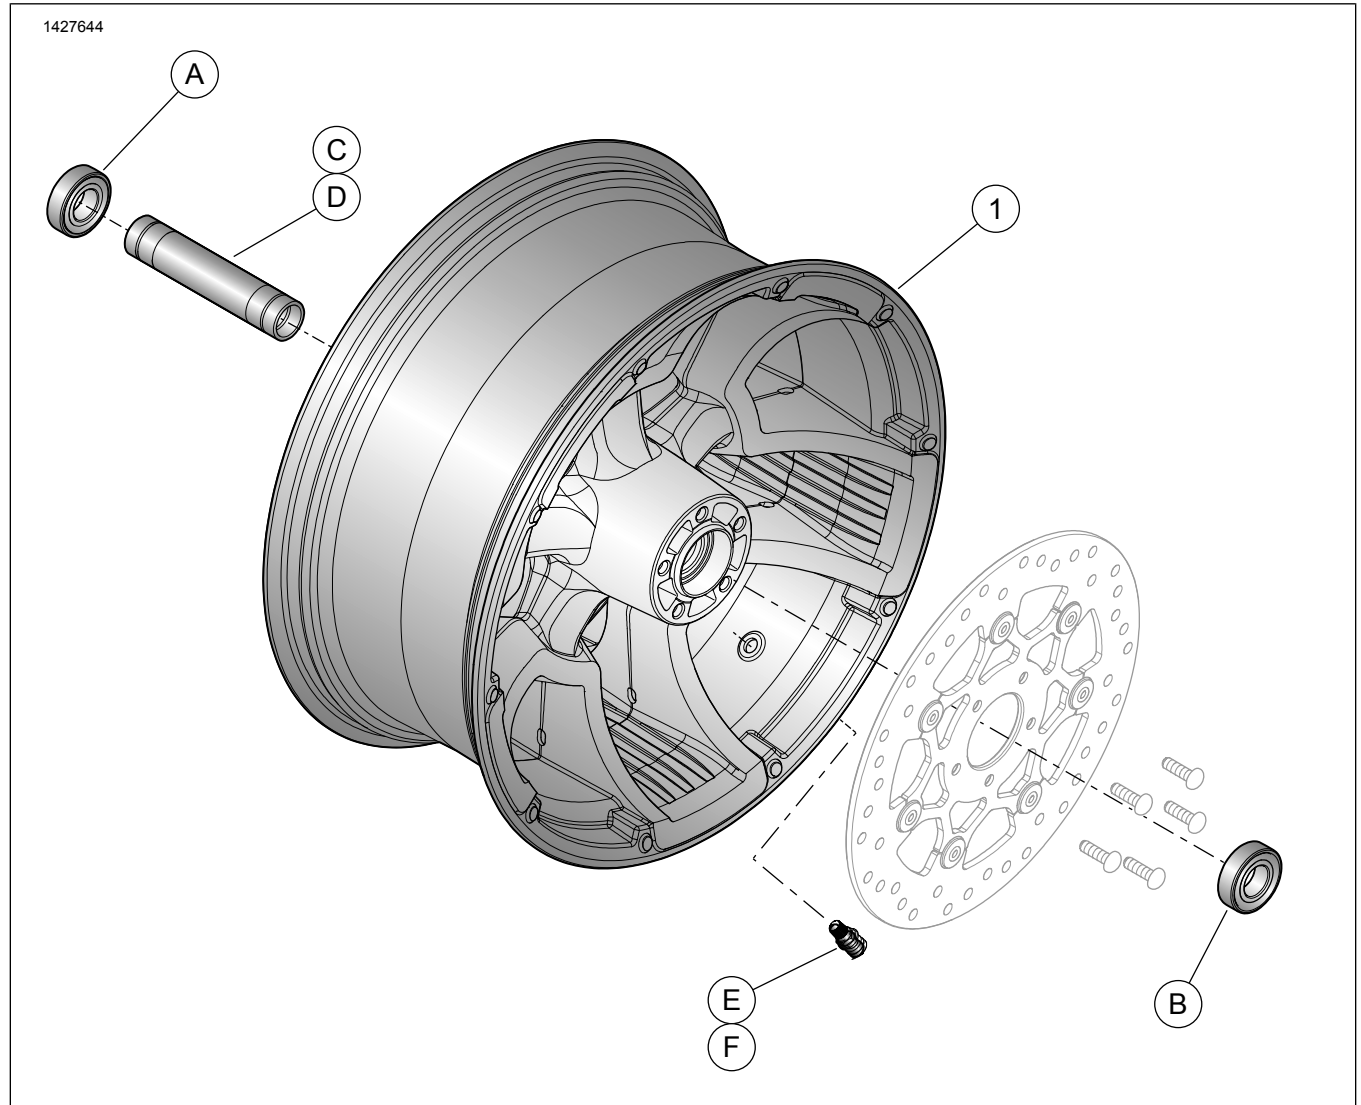

Figure 1. Service Parts: Rear Wheels (16-inch Shown)
See Figure 1 and Table 3.
2. Figure 1 Install valve stem assembly on wheel. See TIRES in the service manual.